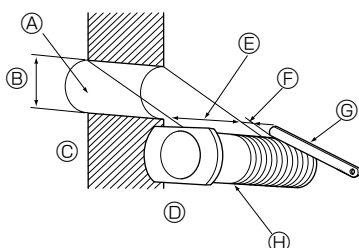

Fig. 3-6
3.4.1. Making holes (Fig. 3-6)
- ① Make $\phi 65$ mm or $\phi 75$ mm holes that are approximately 5–7 mm deep and angled slightly downward outward from the room.
- ② Insert the wall hole sleeves into the holes.
- (A) Wall hole
- (B) 65 mm or 75 mm dia.
- (C) Indoor side
- (D) Wall hole cross section
- (E) Wall thickness
- (F) One scale
- (G) Cut with 1 extra scale length.
- (H) Wall hole sleeve